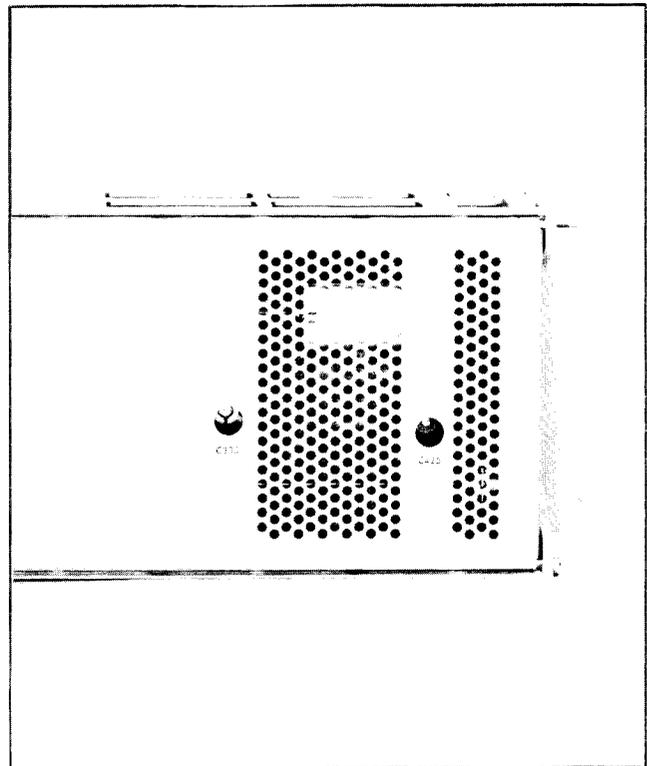

Fig. 5-8. Right side of Type 7A22 showing location of adjustments.
- g. ADJUST—With the frequency set to 1 MHz, adjust C425 for 4.2 div of display amplitude. See Fig. 5-8 for location of adjustment.
h. Adjust C330 (and C144 SN B080000 and up) for minimum vertical deflection. See Fig. 5-8 for C330 location. C144 is under the plastic cover near Q153 on the left side of the 7A22 (see Fig. 4-6, page 4-10).